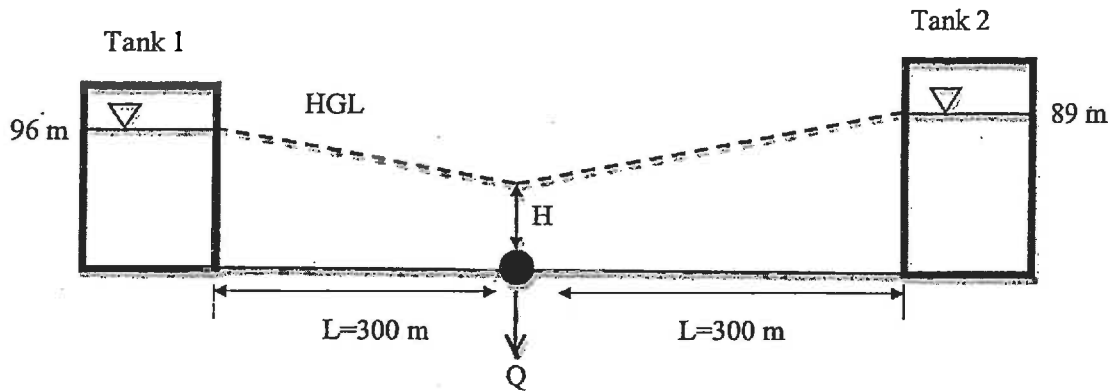

Figure 2. Water supply system.
4. Two elevated tanks supply water to a demand node with a valve at its outlet (Figure 2). The elevated tanks are cylindrical and have diameters of 5 m. The initial water level in Tank 1 is 96 m and the initial water level in Tank 2 is 89 m. The valve is half open and has a discharge coefficient of  $0.13 \text{ m}^{5/2}/\text{s}$ . The initial steady-state flow through the valve is 400 L/s. The valve discharges to the atmosphere. Both pipes have a Hazen-Williams 'C' factor of 110, an internal diameter of 250 mm, and a length of 300 m. Assuming quasi-steady conditions in the system, determine the pressure head at the demand node and the flow in the pipes in the first three time steps of the simulation. Use a time step of 10 seconds to carry out the quasi-steady state simulation.